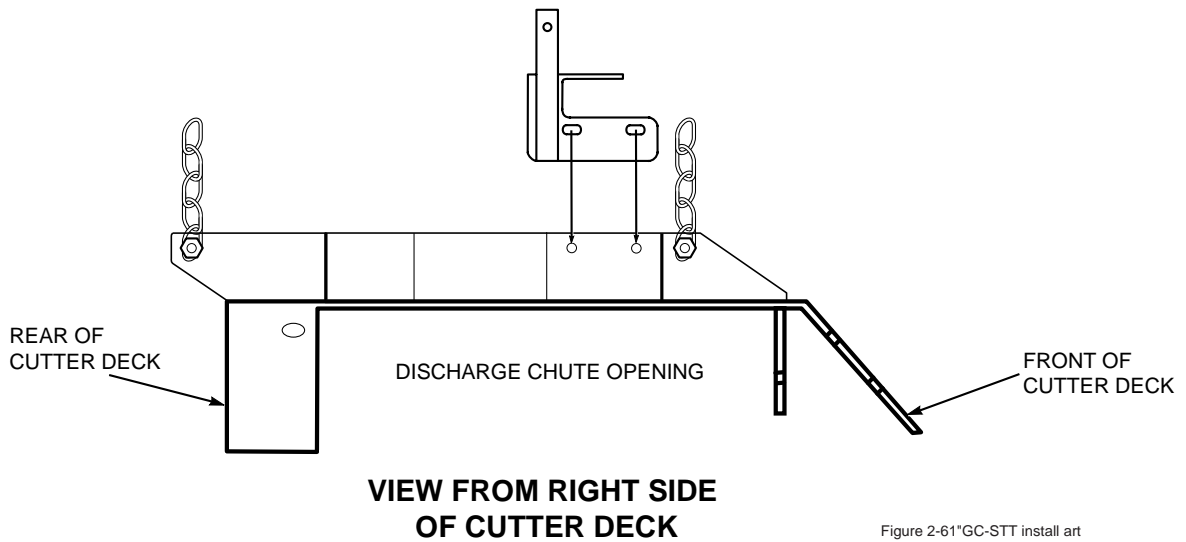

FIGURE 4-3
6. Install the blower mounting bracket to the deck using 1/2-13 x 1-1/2" hex head bolts (p/n 04001-71), 1/2" spring lockwashers (p/n 04030-06), and 1/2-13 elastic stop nuts (p/n 04021-07). See Figure 4-3, Page 7. Do not fully tighten the hardware at this time.